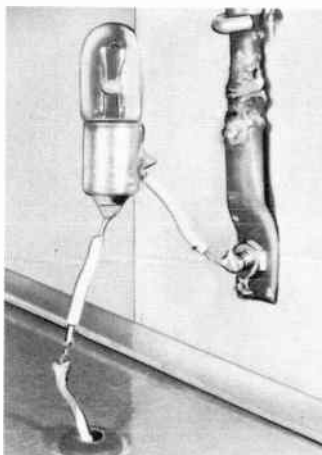

Fig. 708. One short lead from a No. 47 bulb connects to a screw-terminal base of a 4-foot antenna.
35. We can now solder one end of a short lead from a pilot light (Mazda No. 47) to the base of a 4-foot antenna (Fig. 708) and connect a short lead from the light to the same junction of the antenna coil